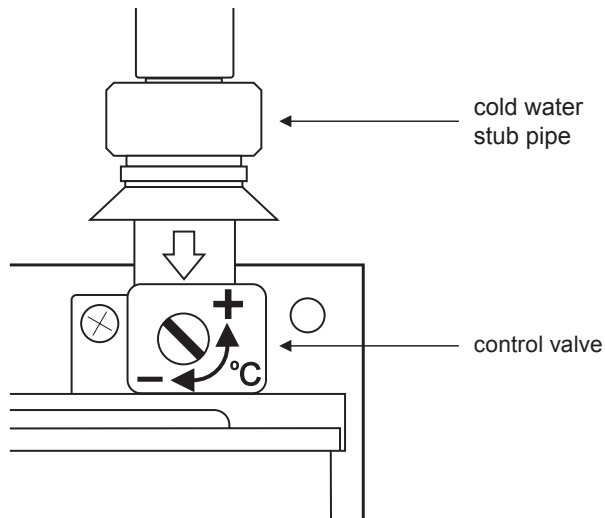

fig. 7
3. In order to increase the outlet water temperature, lower the water flow by turning the control valve with a screwdriver towards "+" or to lower the outlet water temperature by turning the control valve towards "-". (fig.7).